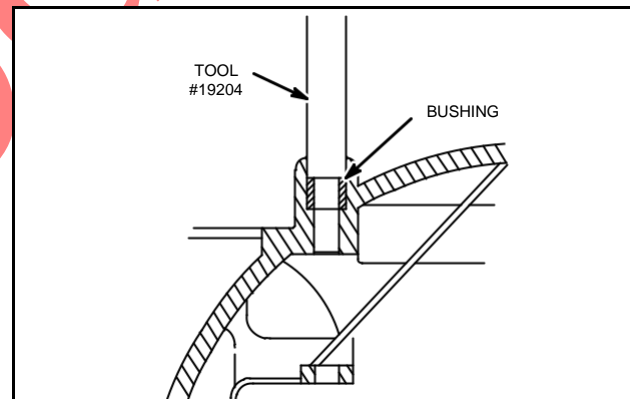

Fig. 20 – Replace Bushing
2. Install new bushing using Tool #19204 to press bushing in until it bottoms, Fig. 20.